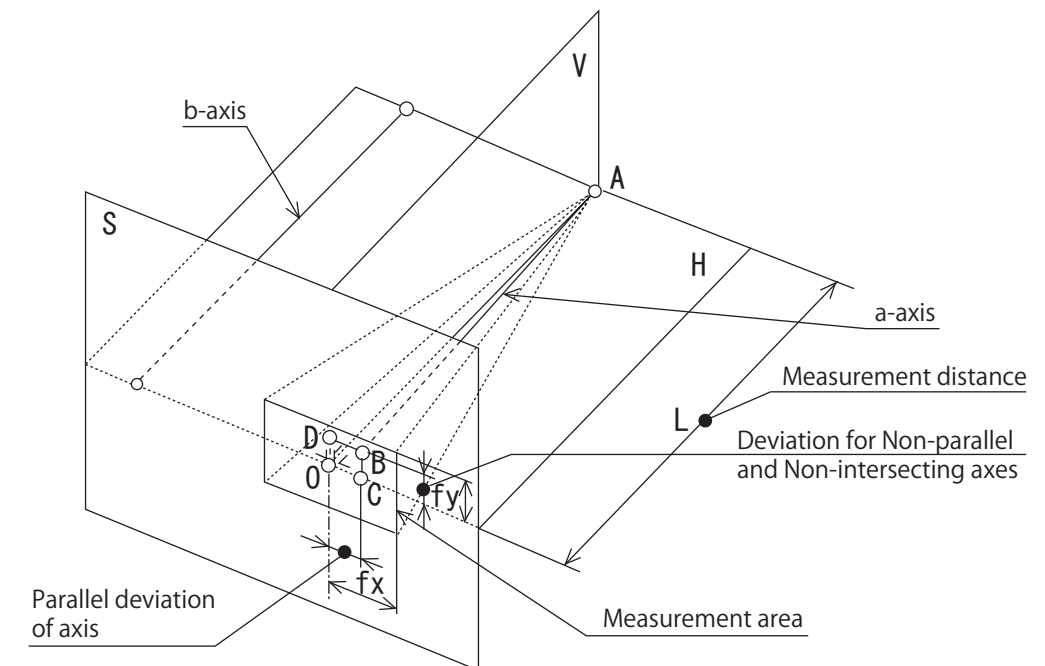

Fig. 4-1 Deviations for Parallel axis, Non-parallel and Non-intersecting axes.
- 2) **Parallel deviation of axis:** Distance between C and  $O^{(1)}$  (Refer to Fig. 4-1) where both ends of measurement distance L on the a-axis on one side of the gear are points A and B; and Flat face H is surface to include one of the points A and one of shaft centre b (b-axis); and flat face V is surface through point A and parallel to b and perpendicular to flat face H, and orthogonal projection of point B to H is C.
- 3) Refer to Fig.4-1, **deviation for Non-parallel and Non-intersecting axes:** Distance between points O and D where D is orthogonal projection of point B to V, referring to above (2).